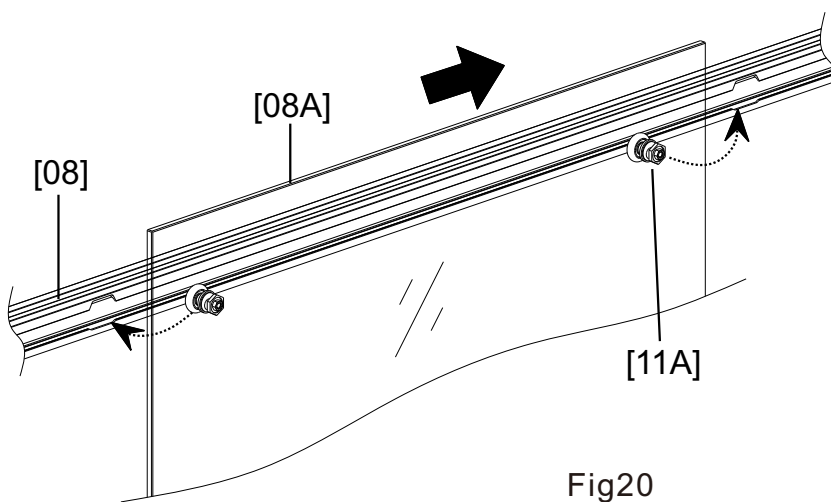

Fig20
1. From inside the shower, hang the inside **Door Panel [08B]** first. Insert left wheel into the notch in the **Support Bar[02]**. Slide the door to the right and insert the other roller wheel into the second notch while inserting the Glass into the **Bottom Guide[17]** (Fig 20).